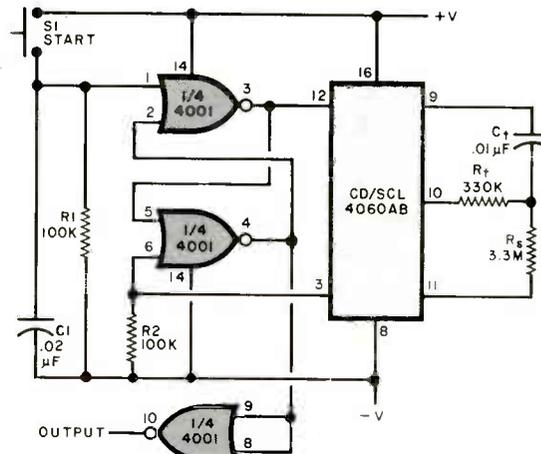

Fig. 3. With the values shown, this circuit has a one-minute delay period. The output strobe goes high after timeout.
**Practical Timer.** Shown schematically in Fig. 3 is the circuit for a practical 1-minute timer built around a 4060-series device. A 330,000-ohm resistor and 0.01- $\mu$ F capacitor are doing a job that would require a 60-megohm/microfarad RC product in a 555 circuit. and